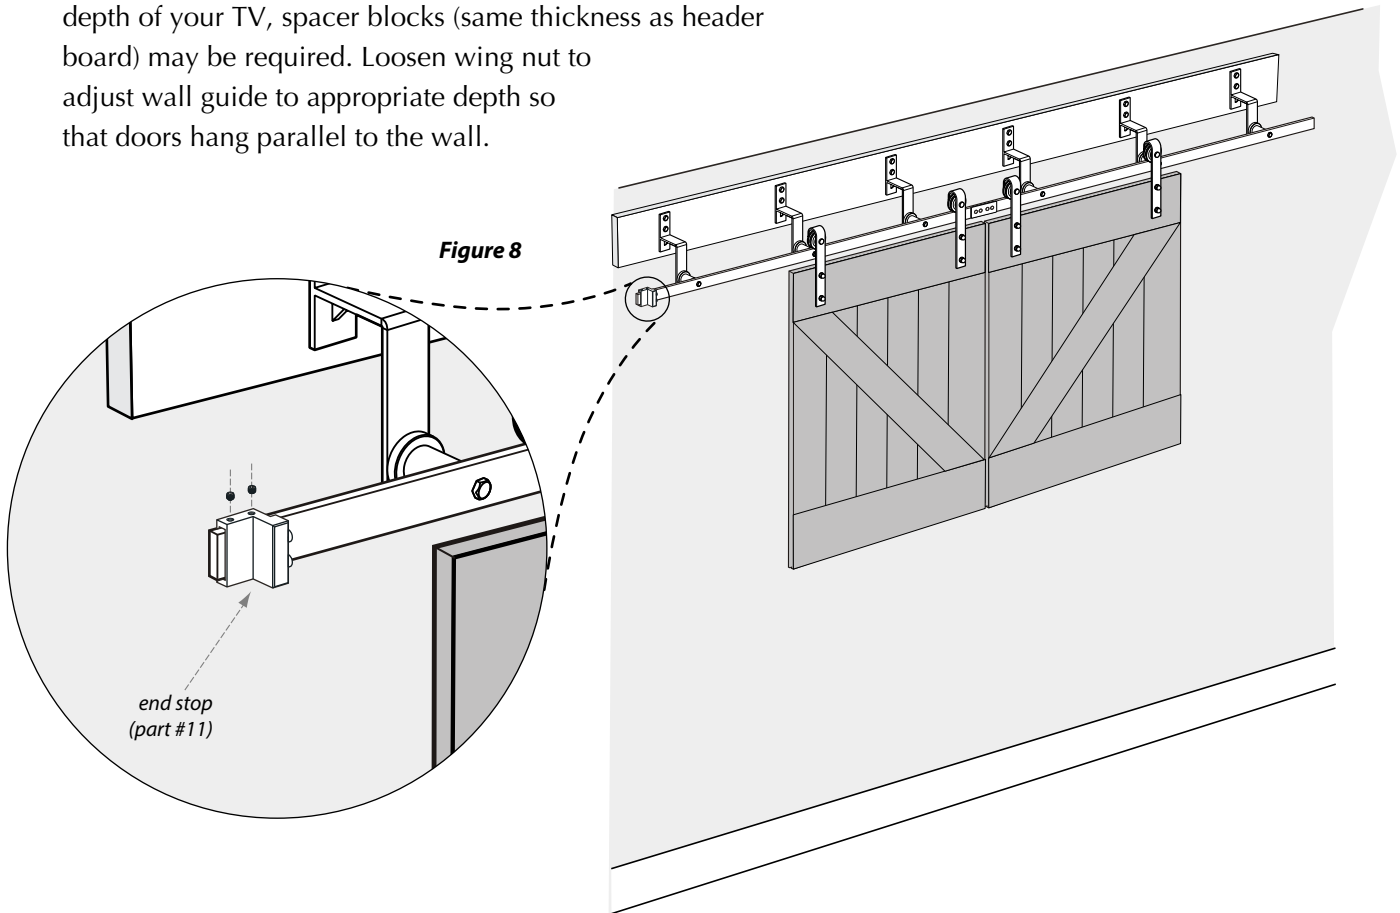

Figure 9
6. Once clearances and proper door operation are established, install anti-jump discs as shown (figure 9). Install two on each door, 6" to 8" from each edge of door.